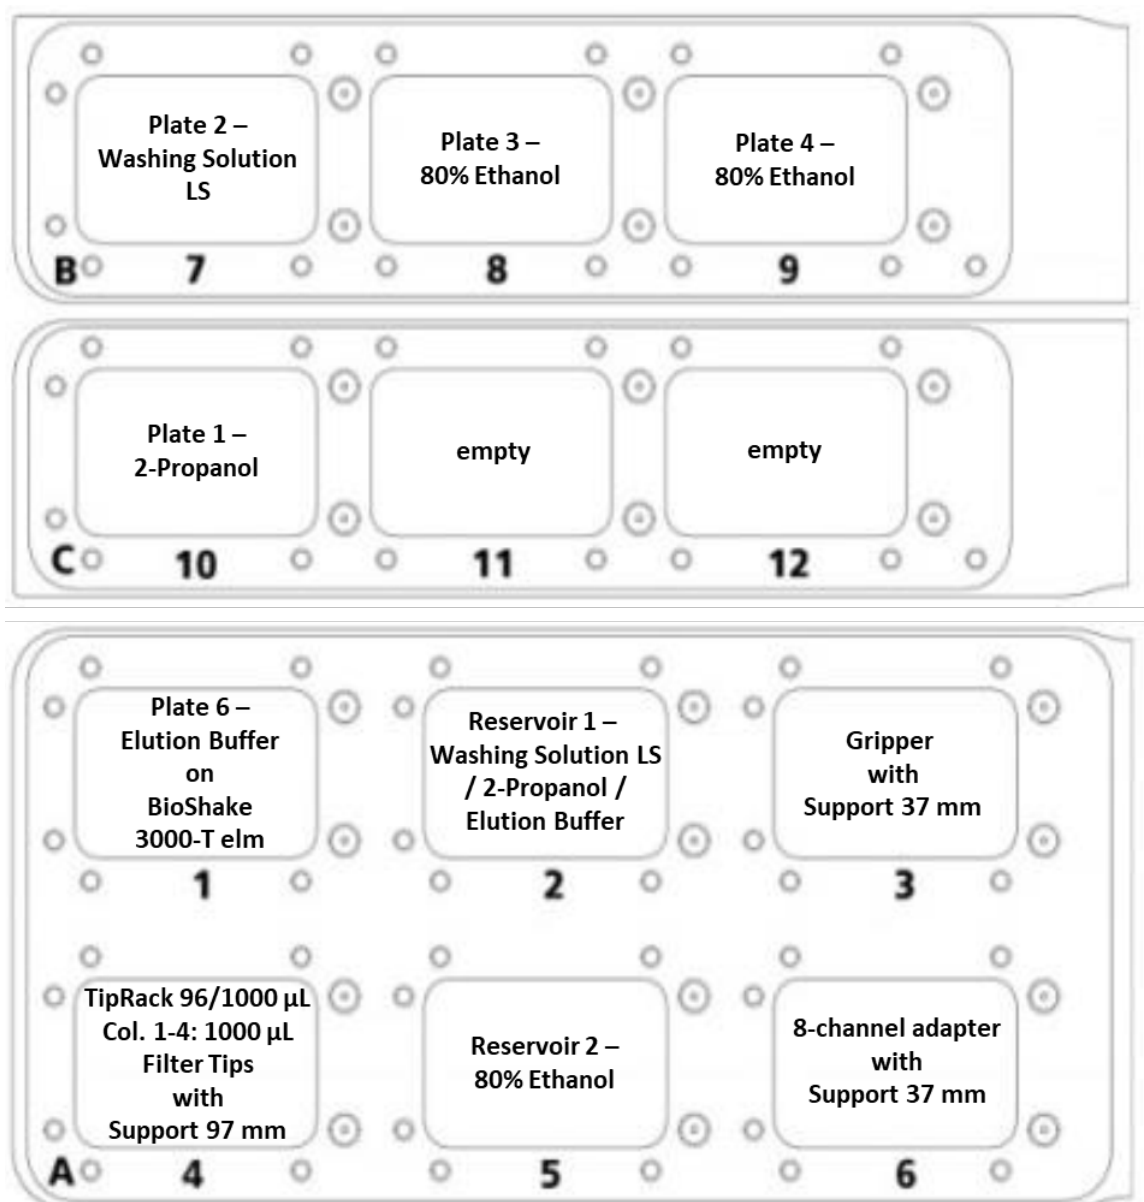

Figure 3: Deck Layout for the prefilling protocol.
- Solution LS/ 2-Propanol/ Elution Buffer". Place the filled reservoir into the CyBio FeliX on position 2 (→ see **Figure 3**).
6. Transfer 130 mL **80 % Ethanol** into the 1 column reservoir labeled "Reservoir 2 – 80 % Ethanol". Place the filled reservoir into the CyBio FeliX on position 5 (→ see **Figure 3**).
8. Place the Tip Rack 96/1000 µL into the CyBio FeliX on position 4 (→ see **Figure 3**).
9. Place the 8-channel adapter (Head R 96) with the support 37 mm into the CyBio FeliX on position 6 (→ see **Figure 3**).
10. Place the empty, labeled plates on the CyBio FeliX deck according to the deck layout for the prefilling protocol (→ see **Figure 3**).